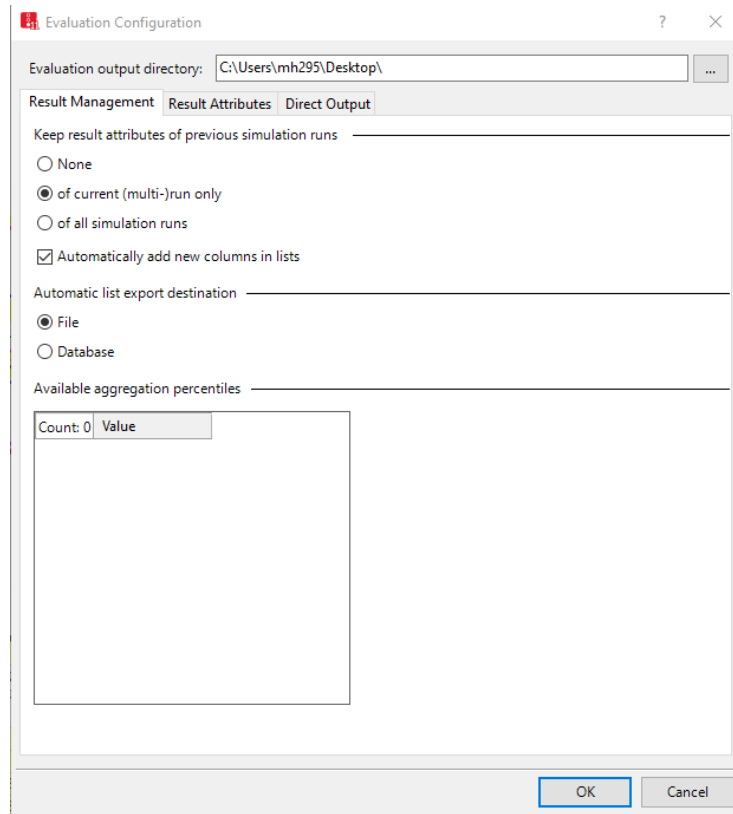

Figure 32: Evaluation Configuration pop-up window, Result Management tab
- step vii. Click on the *Result Management* tab (see Figure 32).